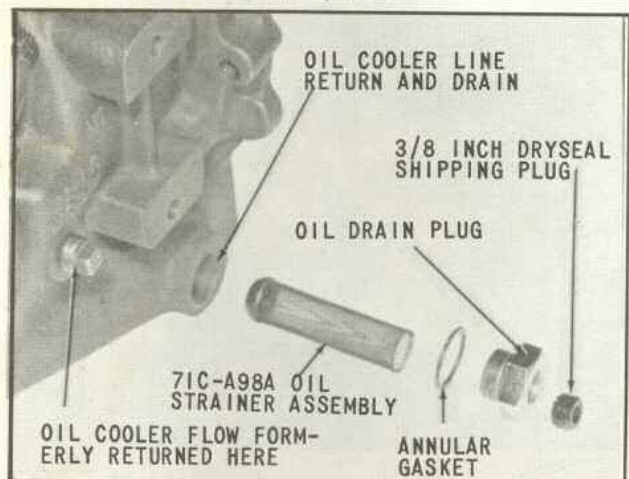

Fig. 108 Installation of Oil Drain Plug and Related Parts
4. Using the oil strainer assembly, annular gasket and oil drain plug as shown in (Fig. 108) proceed as follows:
NOTE: The oil strainer assembly 71C-A98A shown in (Fig. 108) has replaced a similar oil strainer assembly 71-A98C, but these two parts are fully interchangeable. However, oil strainer assembly 71-A98, with
NOTE: If cooler return flow is changed to the new location be sure that the oil strainer installed is similar to the one illustrated in (Fig. 108). The old strainer assembly with one end enclosed would block the flow of the cooler return oil.